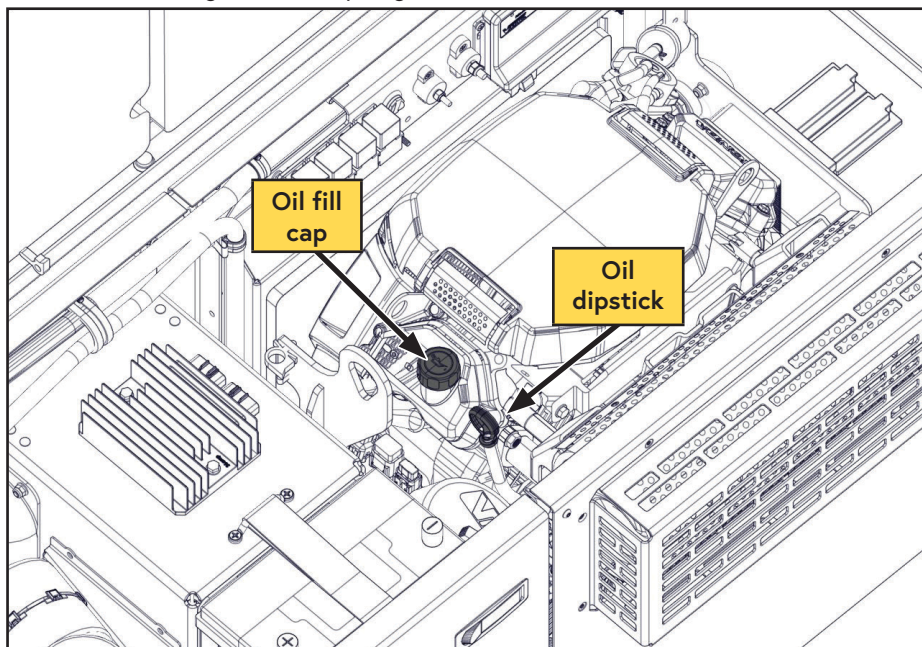

Figure 38 — Remove oil fill cap
- ☐ Remove the engine oil fill cap (Figure 38).